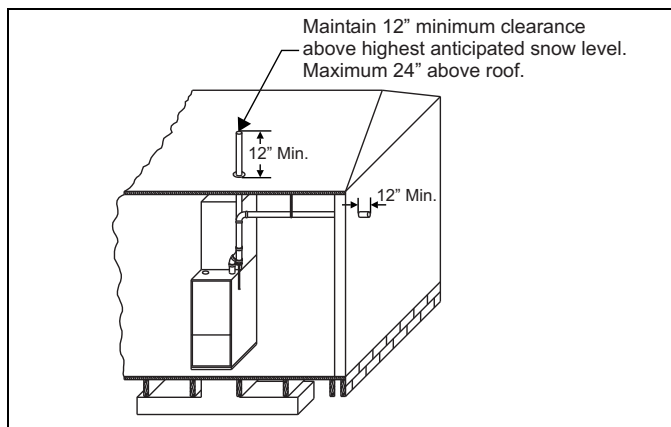
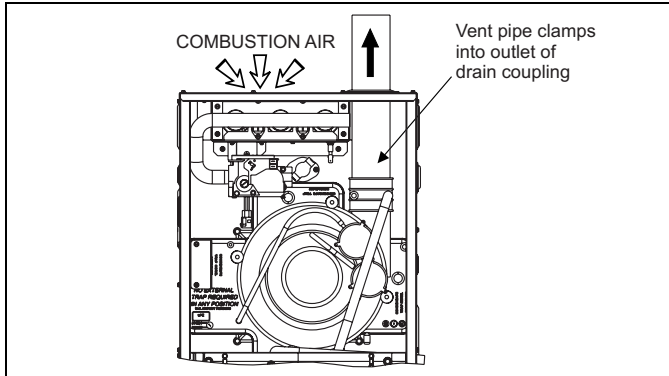

Figure 23: Termination configuration - one pipe
Figure 30: Combustion airflow path through the furnace casing
The combustion air side of the single pipe configuration shown in Figure 30 is referred to in these instructions as ambient combustion air supply. Follow the instructions for ambient combustion air installations, paying particular attention to the section on air source from inside the building. The vent for a single pipe system must be installed as specified in the venting section of these instructions with both vents terminating as shown in Figure 23. Each furnace must have a separate vent pipe. Under NO circumstances can the two vent pipes be tied together.
2. **Ambient combustion air:** Combustion air is supplied from the area surrounding the furnace through openings in the furnace casing. The combustion air and the vent pipes are not terminated in the same atmospheric zone. See Figure 23 for vent terminations. See "Ambient Combustion air Supply" for proper installation. See Figures 29 and 30.